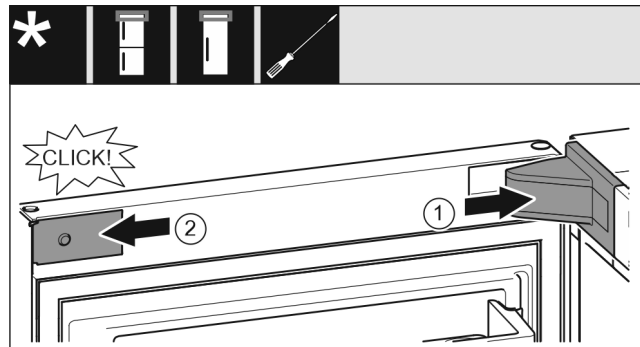

Fig. 22
- ▶ Position the bearing bracket and latch it in place. If necessary push it apart carefully. Fig. 22 (1)
- ▶ Position the panel on the side and latch into place. Fig. 22 (2)